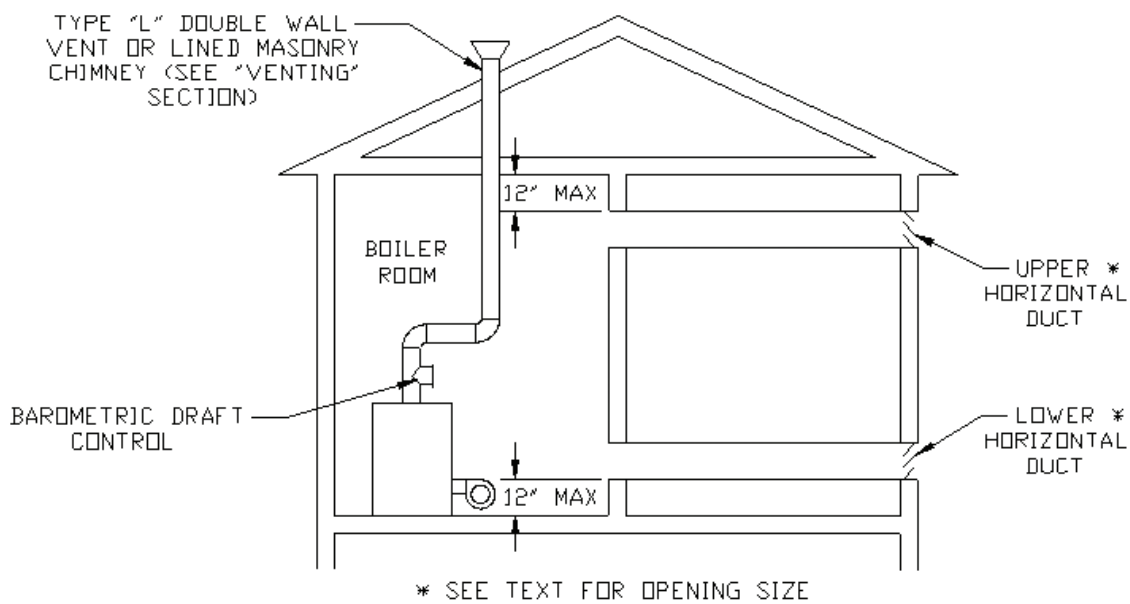

FIGURE 8: ALL AIR FROM OUTDOORS, USING HORIZONTAL DUCTS INTO BOILER ROOM
- Openings to outdoors via horizontal ducts (Figure 8) - Each opening must have a free cross sectional area of 1 square inch per 2000 BTU/hr of the total input of all fuel fired appliances in the boiler room but not less than 100 square inches. Minimum opening size is 3 inches.